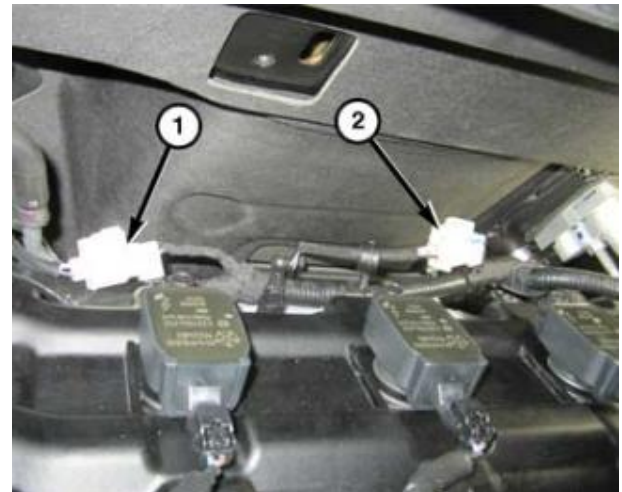

Figure 3 – Oxygen Sensor Harness Connectors
10. Disconnect the upstream (1) and the downstream (2) oxygen sensor harness connectors (Figure 3).
17. Connect the upstream and the downstream oxygen sensor harness connectors (Figure 3).